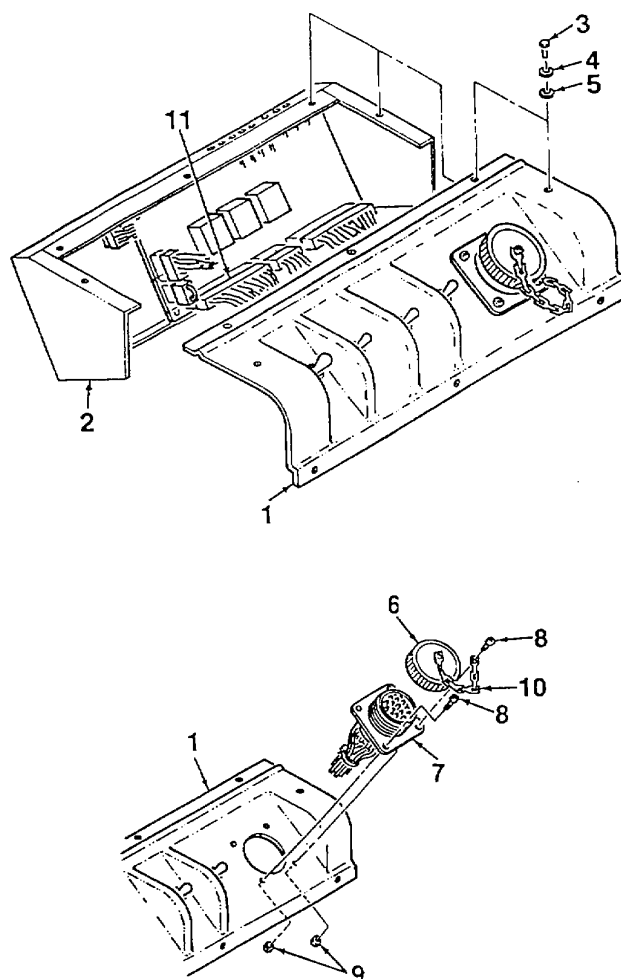

Figure 4-13. Remote Control Connector
1. Remove front panel (1, Figure 4-13) from enclosure (2) by removing five screws (3), lockwashers (4), and washers (5).
2. Tag and disconnect electrical wiring connector (11) from circuit board assembly.
3. Unscrew receptacle cap (6) from remote control connector (7).
4. Remove remote control connector (7) from front panel (1) by removing four screws (8) and locknuts (9).
1. Apply silicon adhesive to rear of connector (7, Figure 4-13) where connector mates to front panel (1).
2. Install remote control connector (7) onto front panel (1) using four screws (8) and locknuts (9). Chain (10) is secured to front panel by lower right hand screw (9).
3. Install receptacle cap (6) onto remote control connector (7).
4. Mate enclosure (2) to front panel (1). Connect electrical wiring connector (11) to circuit board assembly. Secure front panel to enclosure using five screws (3), lockwashers (4), and washers (5).